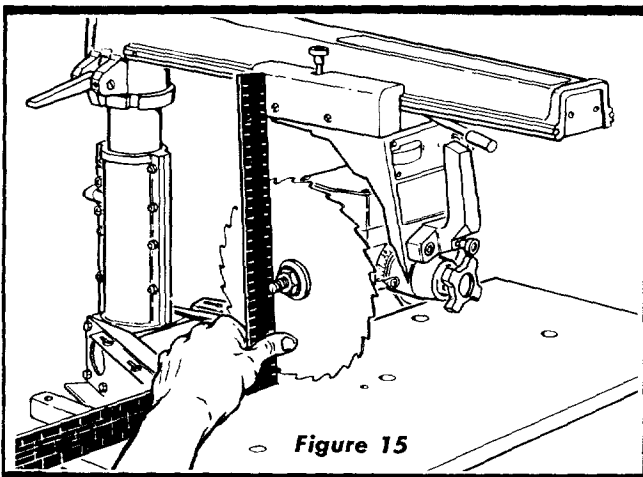

Figure 15
1. Place the edge of a framing square on the table top and against the saw blade as shown in figure 15.